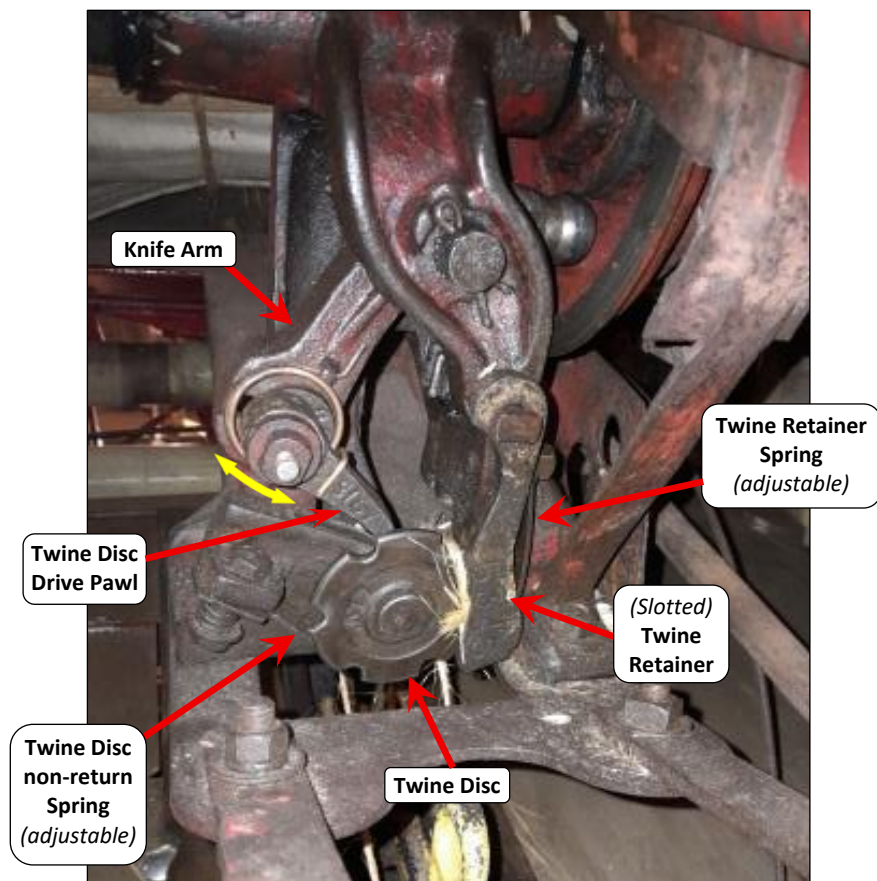

Fig.5.21 Albion binder knotter – Key components
Albion knotters operate on the 'Deering' principle and have much in common with Hornsby Binder knotters (*see Section 5.3*). However, unlike all other Deering-type knotters, the Twine Disc is not driven (*rotated*) from the Cam Gear by a pinion, shaft, worm & gear. Rather it is indexed by a pawl & ratchet mechanism, operated by the (*moving*) Knife Arm on its return stroke (*Figs 5.21, 5.23 & 5.24*). A non-return spring prevents backwards rotation of the Twine Disc between tying cycles.
Key Features (*see Figs 5.21–5.27 and also Tables 1 & 11*)
- **Twine Disc:** Single-plate disc with six twine notches on its outer edge (*Fig.5.21*). Mounted with its face / edge at 90° to the underside of the Needle. Rotated by an (*incremental*) ratchet & pawl mechanism from the Knife Arm (*on its return stroke*) (*Figs 5.23 & 5.24*). Non-return spring mounted on Knotter frame prevents backwards rotation of Disc, which rotates through 1/6 turn (60°) during each tying cycle